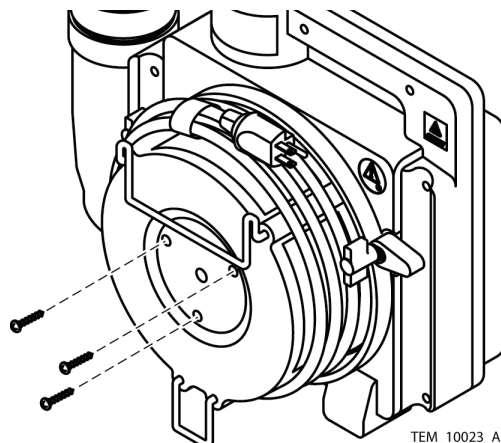

Figure 16. Filter Cover Screws
- Remove the filter cover screws. See Figure 16.
- Place the replacement filter cover assembly on the warming unit and install the screws. Tighten the screws to 8 to 12 in/lbs (20 to 30 cm/kg). See Figure 16.